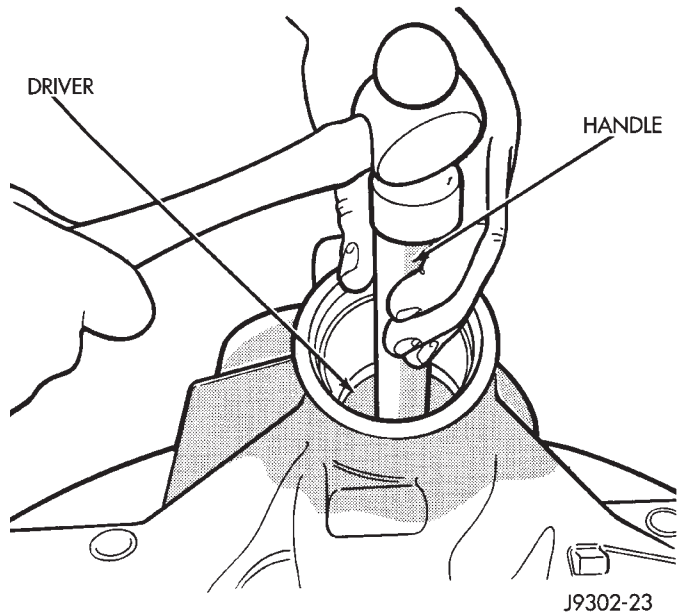

Fig. 48 Rear Bearing Cup Removal
(10) Remove the rear bearing cup from housing (Fig. 48). Use Remover C-4307 and Handle C-4171.